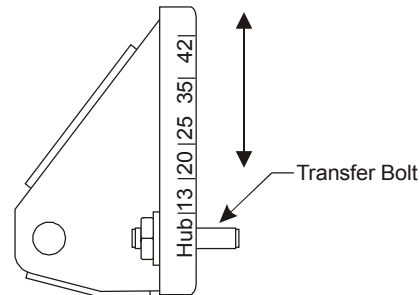
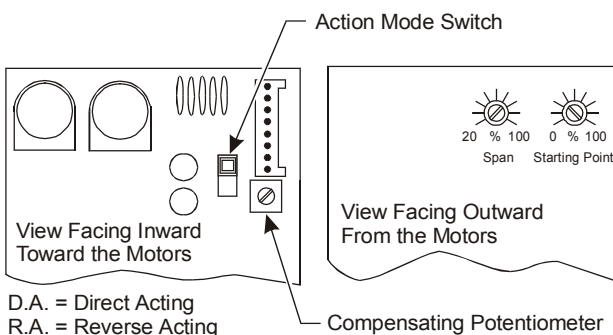

Figure 10: Adjusting the Transfer Bolt (Scaled in Millimeters)
Figure 11: Electronic Positioner Circuit Board
2. Adjust the transfer bolt (as illustrated in Figure 10). The transfer bolt position at its center should correspond to the following values: for a 2-1/2 in. valve, set the transfer bolt to 23 mm; for a 3 or 4 in. valve, set the transfer bolt to 33 mm; for a 5 in. valve, set the transfer bolt to 39 mm; and for a 6 in. valve, set the transfer bolt to 42 mm.
Note: When the valve reaches the end of stroke, the ohmmeter should read a nominal end resistance of 1,850 to 1,950 ohms. If the resistance is too low or if the maximum resistance occurs before the valve reaches the end of stroke, adjust the transfer bolt (as illustrated in Figure 10).
2. Refer to Figure 11 to locate the action mode switch and compensating potentiometer on the inward side of the electronic positioner circuit board. Also, locate the span and starting point potentiometers on the outward side of the electronic positioner circuit board. During the adjustment procedure, it may be necessary to lift the electronic positioner circuit board out of its holder to access the action mode switch and the compensating potentiometer.
3. Move the action mode switch to Position II for Reverse Acting (RA) mode. In the RA mode, the actuator travels up as the input signal increases.
6. Adjust the transfer bolt (as illustrated in Figure 10). The transfer bolt position at its center should correspond to the following values: for a 2-1/2 in. valve, set the transfer bolt to 23 mm; for a 3 or 4 in. valve, set the transfer bolt to 33 mm; for a 5 in. valve, set the transfer bolt to 39 mm; and for a 6 in. valve, set the transfer bolt to 42 mm.
10. Adjust the compensating potentiometer (located on the inward side of the circuit board as illustrated in Figure 11) to the center of its rotation range.
16. Adjust the transfer bolt (as illustrated in Figure 10) if the adjustment range is not sufficient. If the voltage span is too high, move the transfer bolt in the direction of larger strokes. If the voltage span is too low, move the transfer bolt in the direction of smaller strokes. The transfer arm must remain parallel to the feedback arm.
17. Set the action mode switch (as illustrated in Figure 11) to the desired direction. In the direct acting mode, the actuator extends down as the control signal increases; in the reverse acting mode, the actuator retracts up as the control signal increases. For both settings, the feedback voltage is maximum when the valve stem is in the fully up position and minimum when the valve stem is in the fully down position.
18. Input the desired minimum control signal to the actuator. Once the valve stops, slowly adjust the starting point potentiometer (as illustrated in Figure 11) in small increments until the actuator no longer strokes and the motor end-of-travel switches turn the motor off. The valve should be in the fully minimum position.
19. Input the desired maximum control signal to the actuator. Once the valve stops, slowly adjust the span potentiometer (as illustrated in Figure 11) in small increments until the actuator no longer strokes and the motor end-of-travel switches turn the motor off. The valve should be in the fully maximum position.
Actuator does not drive in the proper direction.	Move the action mode switch (as illustrated in Figure 11) to Position I for Direct Acting (DA) mode or Position II for Reverse Acting (RA) mode.